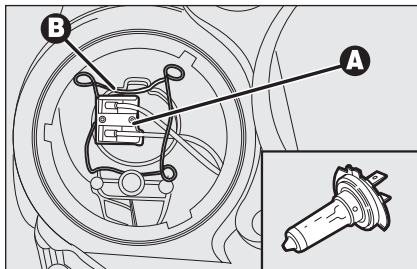

fig. 26
- disconnect the electric connector **A-fig. 26**;
- fit the new bulb and refit bulb holder catch **B-fig. 26**;